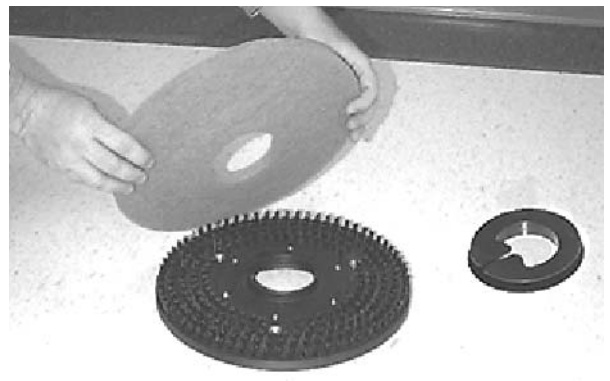

FIG. 8
- (For Pad Installation)** Attach pads to pad drivers before connecting drivers to motor hub. Secure pads with plastic centerlock ring (Figure 8).